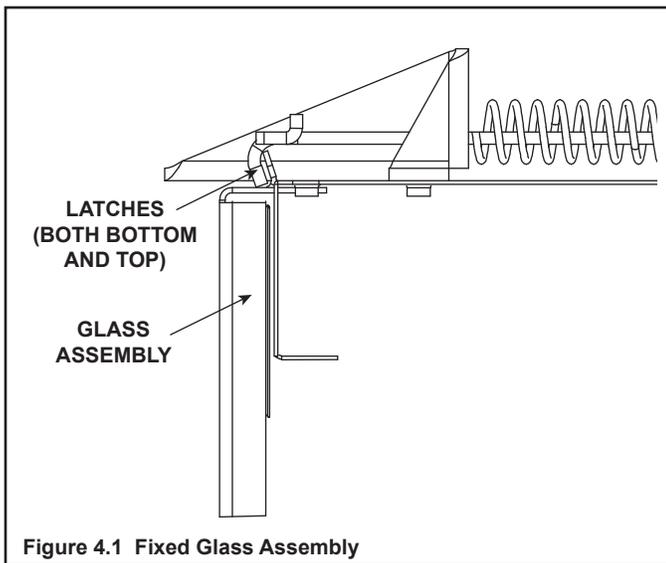

Figure 4.1 Fixed Glass Assembly
- Pull the four glass assembly latches out of the groove on the glass frame. Remove glass door from the appliance (see Figure 4.1).